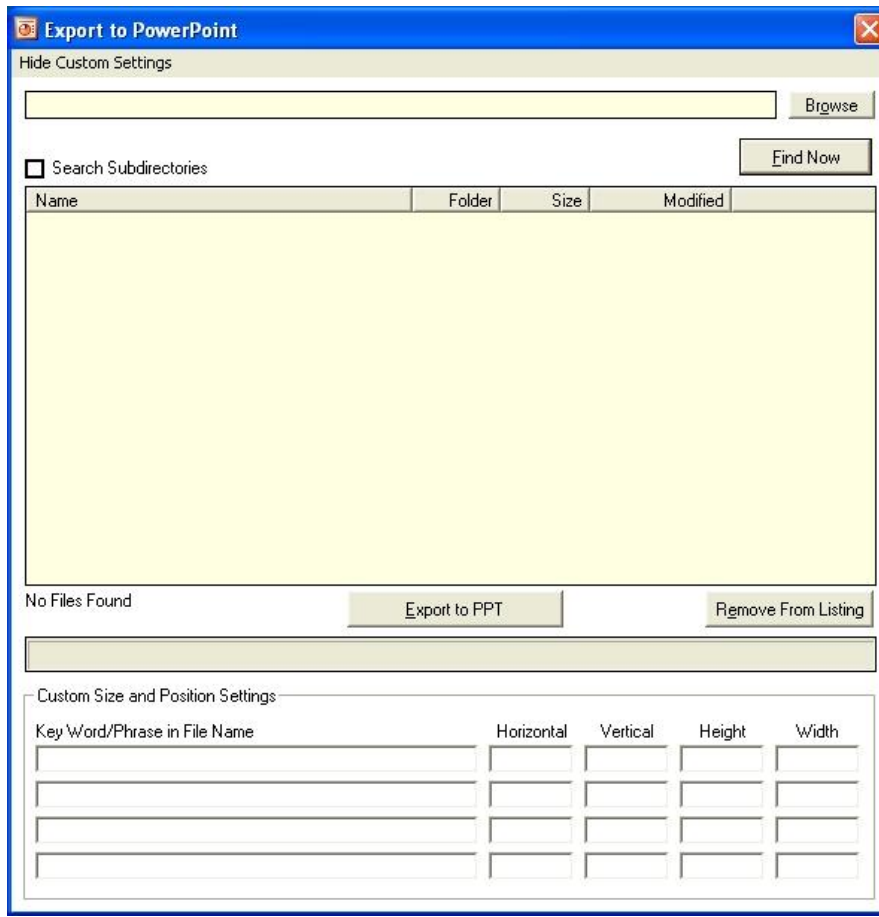

Figure 9
- 2) The export utility interface has several fields and options to enable exporting of Milestones Professional files to MS Power Point. (Figure 9)
- f. Show/Hide Custom Settings – This menu option will expand (**figure 9**) the export utility interface to include the Custom Settings area at the bottom of the interface. These settings will dictate the size and position of the image in PowerPoint.